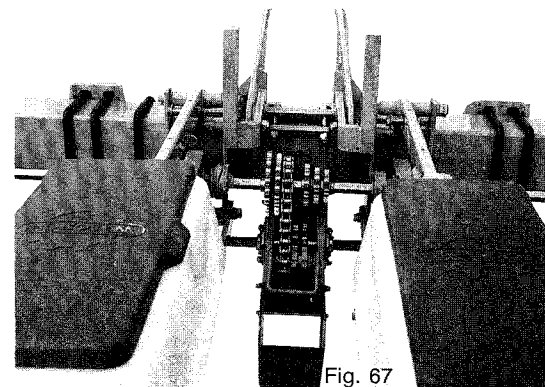

Fig. 67
- Assembly for planters with 14"-15" (35-40 cm) inter-row spacing (fig. 67). Remove the 2 bearings brackets (4).